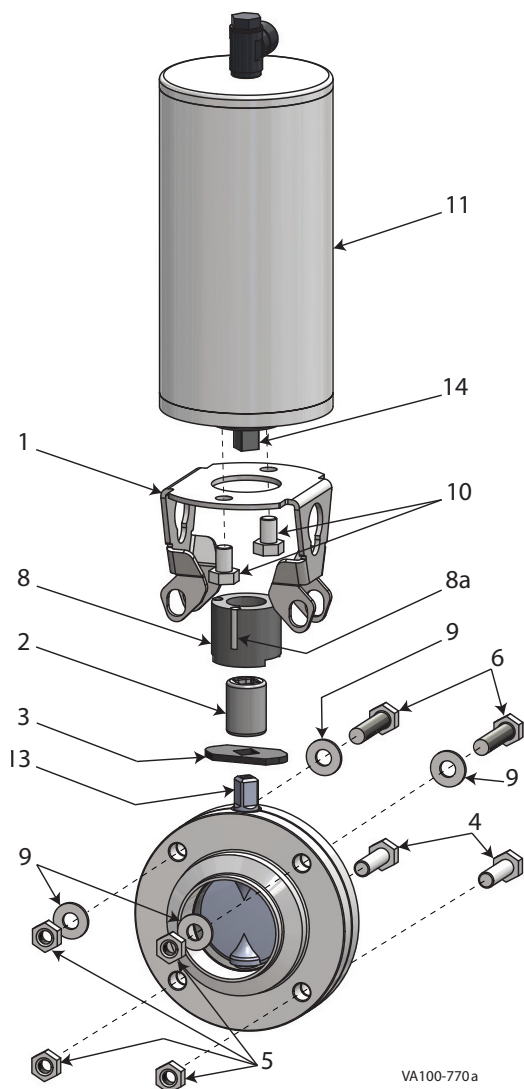

Figure 4 - Mounting Linear Adapter
2. See Figure 4. Determine the actuator and valve shaft orientation (normally closed or normally open). Slide the position indicator (item 3) onto the valve shaft (item 13) to align with the valve disc (item 7).